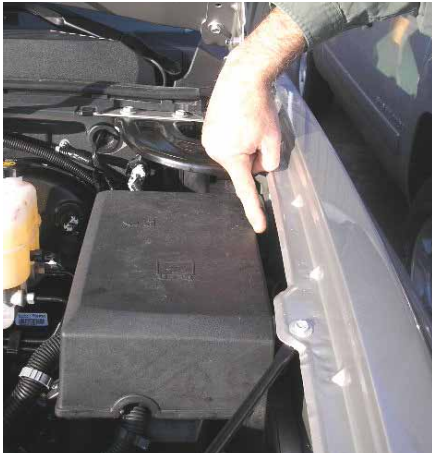

Figure 4
4. After completing the under-IP connections to the electric brake controller, open the hood and locate the red wire taped to the harness between the under-hood electrical center and the driver-side front fender (Fig. 4)